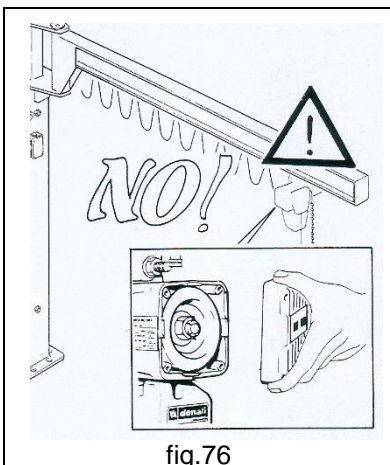

fig.76
- **NEVER** tamper with the settings of the safety-devices (limit switches, clutch device) - (fig.76)